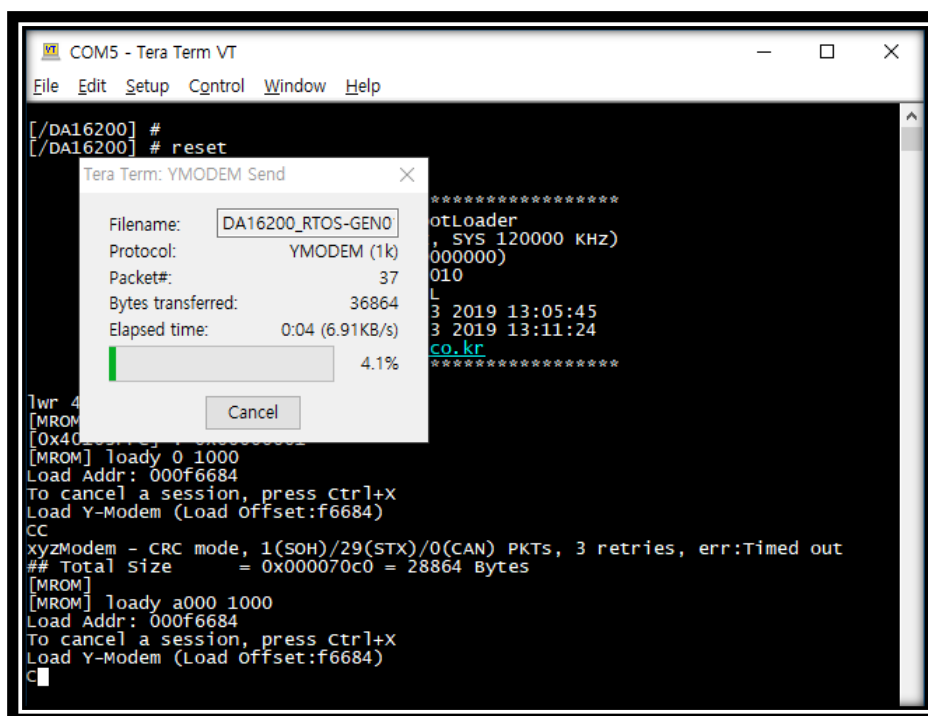

Figure 7: Programming FRTOS Image
4. Program RTOS image as shown in Figure 7.